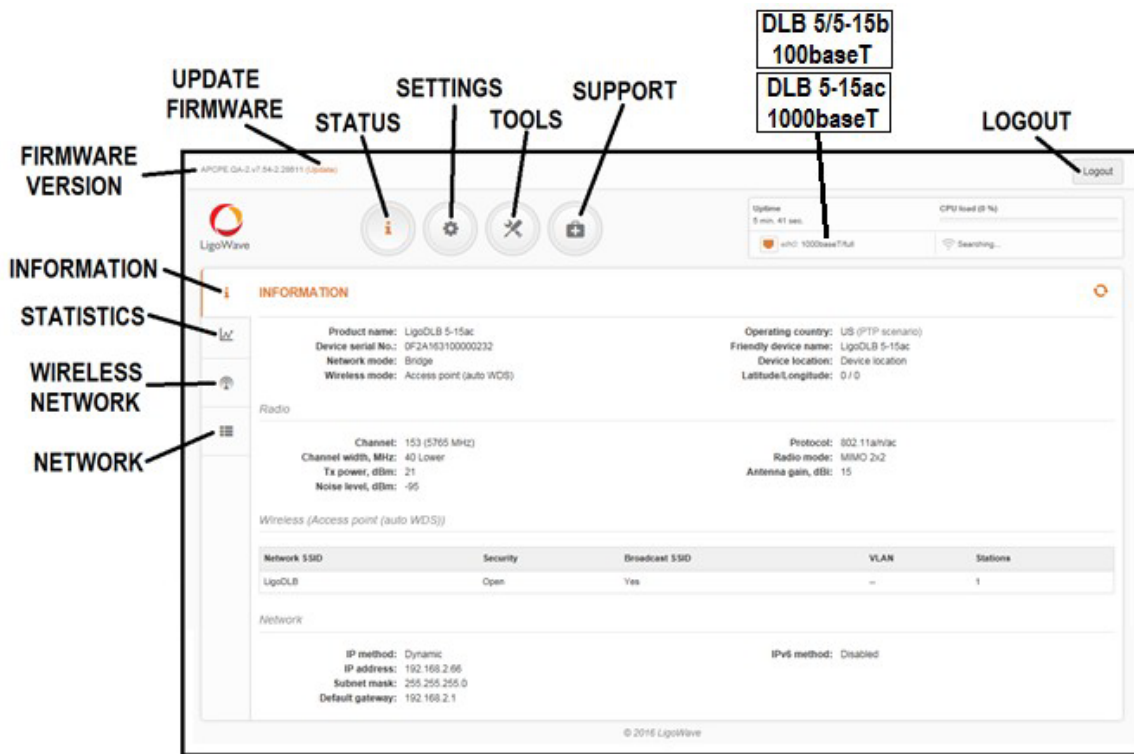

Figure 7 Information Window
12. Select **Change** to move to the next screen. A "Please wait..." box will open and then display your firmware inputs and initial firmware screen (Figure 7).
(Update firmware) The firmware version is displayed in the upper left corner of each firmware screen (Figure 7) which opens when logging in with a PC/laptop. To download a new version of the firmware, go to <https://www.ligowave.com/downloads>.